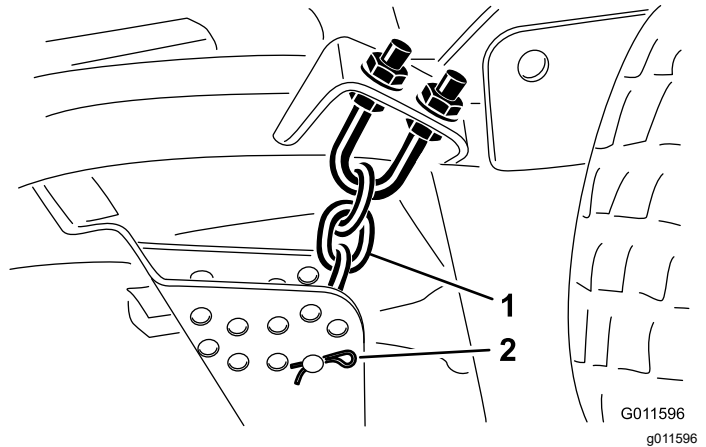

Figure 18
9. Remove the hairpin cotter and clevis pin securing the height-of-cut chains to the rear of the cutting unit (Figure 18).